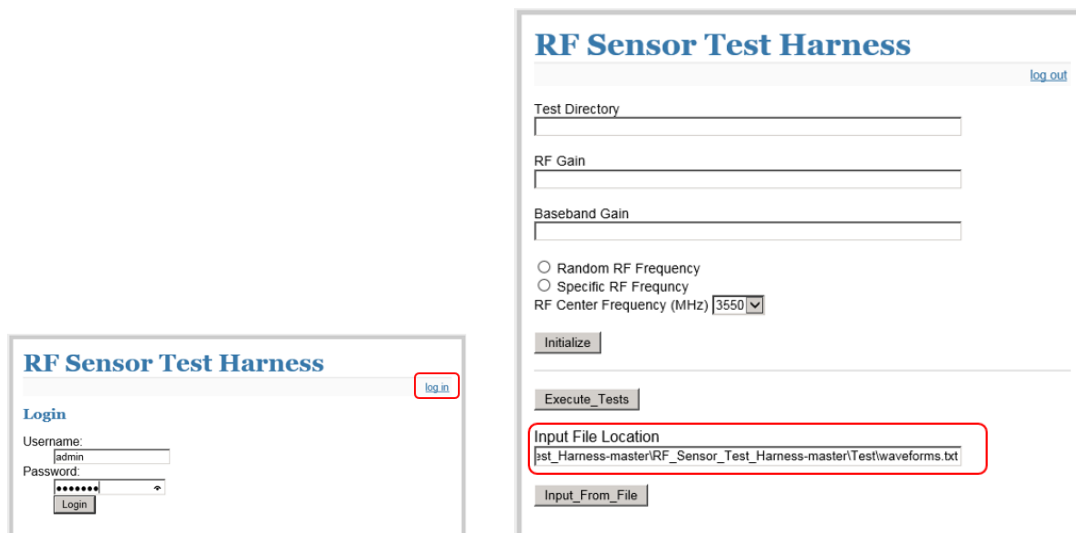

Figure 4: RF Sensor Test Harness user interface
- The RF Sensor Test Harness user interface (web browser) is already launched and will appear as shown in Figure 4.
- Enter the full path of the "waveform.txt" file into the "Input File Location" field of the user interface and press "Input_From_File" to play the waveforms as shown in Figure 4.